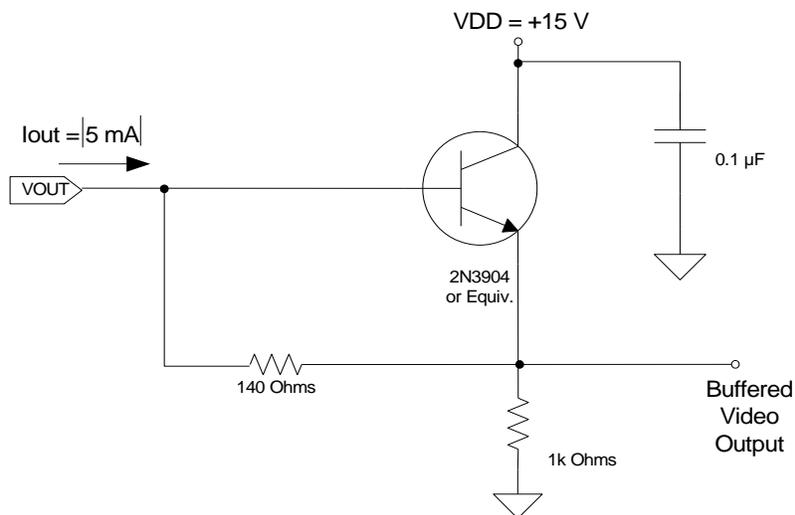

Figure 3: Recommended Output Structure Load Diagram.
The output consists of a floating diffusion capacitance connected to a three-stage source follower. Charge presented to the floating diffusion (FD) is converted into a voltage and is current amplified in order to drive off-chip loads. The resulting voltage change seen at the output is linearly related to the amount of charge placed on the FD. Once the signal has been sampled by the system electronics, the reset gate (RG) is clocked to remove the signal and FD is reset to the potential applied by reset drain (RD). Increased signal at the floating diffusion reduces the voltage seen at the output pin. To activate the output structure, an off-chip current source must be added to the VOUT pin of the device. See Figure 3.